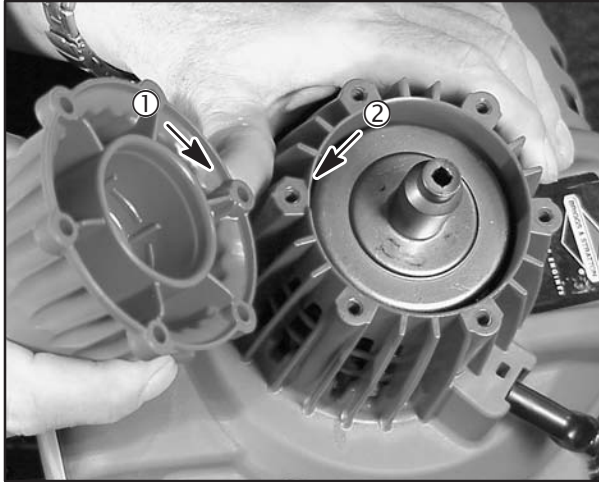

Fig. 16
**NOTE:** Raised boss (1) on clutch housing cover must fit in recessed boss (2) on blower housing, Fig. 16.